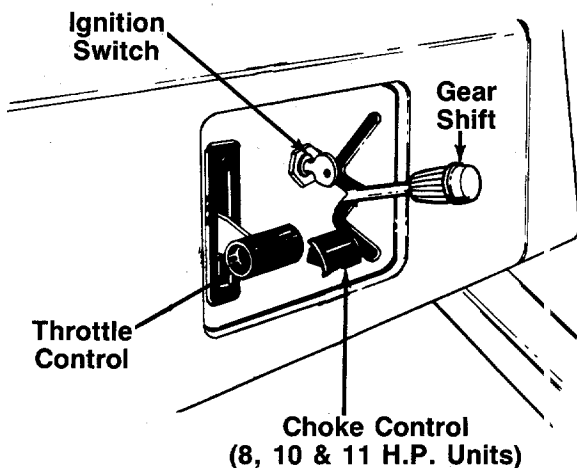

FIGURE 16.
The throttle control is used to regulate the engine speed. On 5 H.P. models, it is also used to choke the engine. The engine should be operated from 3/4 to full throttle when operating the cutting deck. See figure 16.
The choke control is located on the console and is operated manually. Details for the choke operation are covered in the separate engine manual packed with your unit. See figure 16.
Electric Start Model—The key must be turned to the START position to start the engine. After the engine is running, let the key return to the ON position. Turn the key to the OFF position to stop the engine. Remove the key when the rider is not in use. See figure 16.
The shift lever is located on the left hand side of the console and has three positions, FORWARD, NEUTRAL and REVERSE. See figure 16. The clutch-brake pedal must be depressed and the riding mower
- b. **Electric Start Units:** Turn the ignition key to the START position. As soon as the engine starts, let the key return to the ON position. See figure 16.